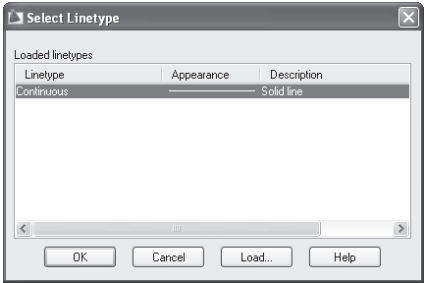

Figure 7.33
2. Click the word *Continuous* that appears in the layer listing (in the Linetype column) of which you will assign the new line type. This opens the Select Linetype dialog box, as shown in Figure 7.33. To find the